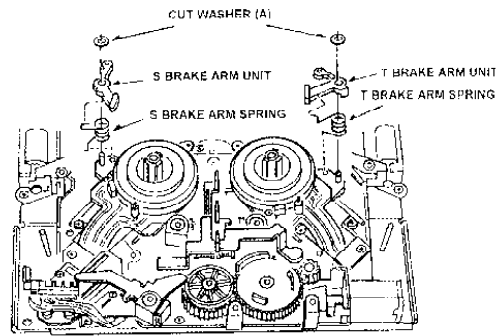

Fig.6-4-1 Removal of S & T Break Arm Unit
4. Remove the cut washers (A) and remove the supply and Take Up Brake Arm Unit as shown in **Figure 6-4-1**.
1. When install the new Brake Arm Unit first, hang on the Brake Arm Spring as shown in **Figure 6-4-1**.
3. Main Brake Torque confirmation is required (Refer to **item 5-3**).
4. Confirm that the Tension value on the Playback mode (Refer to **item 5-11**).